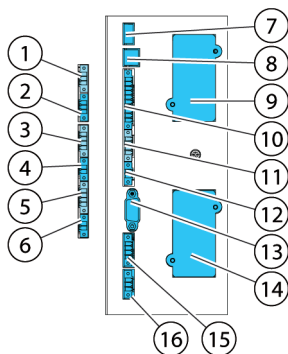
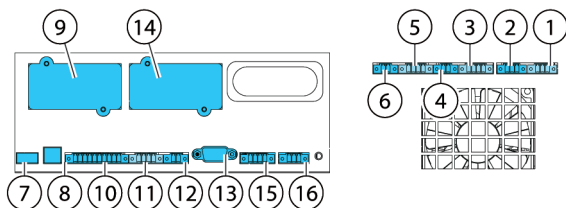

Figure 22. Communication interfaces in the 93PS UPS 20 kW standard and C-model frames
Figure 23. Communication interfaces in the 93PS UPS 40 kW frame
2. Terminal blocks TB6, TB7 and TB8 are for external parallel control signals (see Figure 22 and Figure 23).
See Figure 22 and Figure 23 for the location of communication interfaces in 93PS UPS 8–40 kW. The numbered parts are explained after the figures.